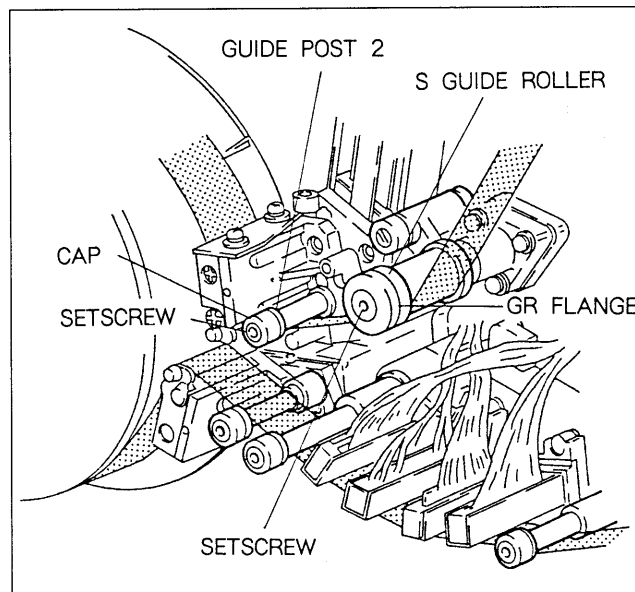
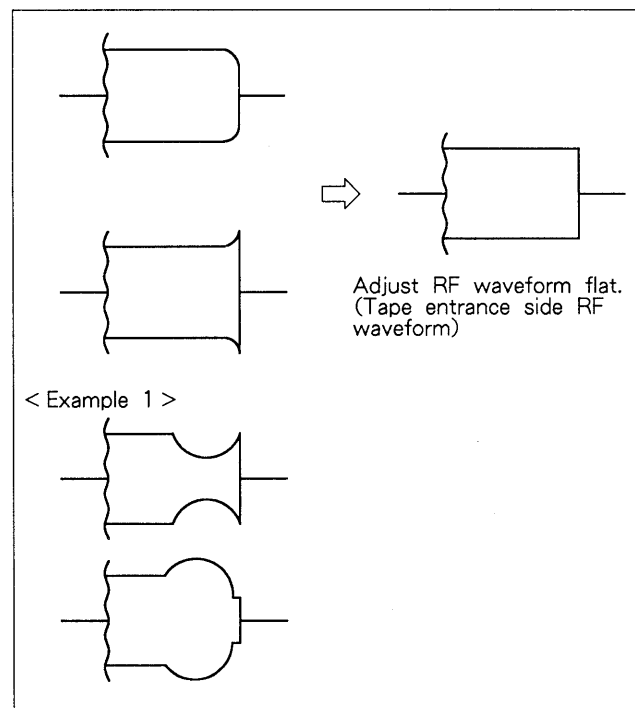

Fig. 9-5-4. Guide Post 2 and S Guide Roller
Fig. 9-5-5. Tape Entrance Side RF Waveform
- (1) Loosen the setscrew. (Opposite side: 1.5 mm)
- (2) Turn the cap in the clockwise direction in order to appear the tape curl once, then turn it in the counterclockwise direction until there is no tape curl.
- (3) Turn the cap in the counterclockwise direction about 10 degrees.
7. Adjust the S guide roller shown in Fig. 9-5-4 so that the RF waveform shown in Fig. 9-5-5 of tape entrance side is flat. When adjusting the S guide roller, at this time, tape curl may appear at the guide post 2, therefore, perform adjustment while observing the guide post 2 is set free from the limitation.
- (2) Press the top or bottom edge of the tape from the back-coated surface while it is running, and find the RF waveform where it becomes flat as shown in Fig. 9-5-5.
- (3) Perform adjustment by turning the slant adjustment screw of the entrance slant guide as follows: